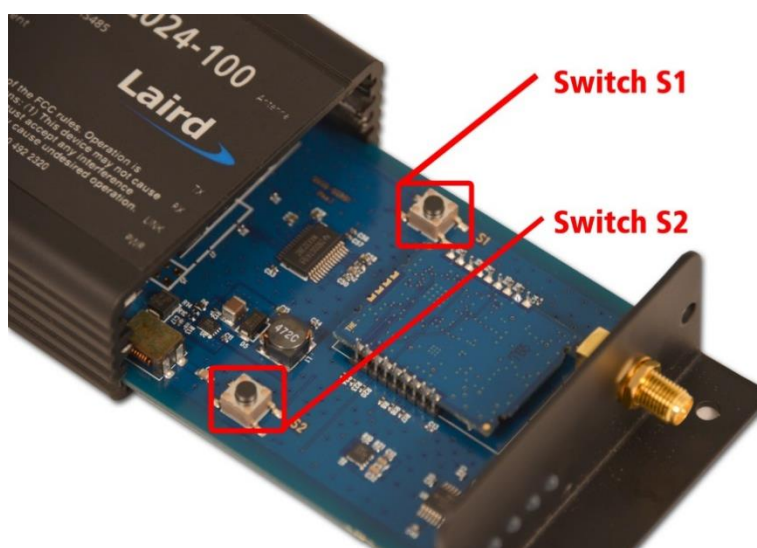

Figure 3: Switch buttons S1 and S2
4. Press and hold both pushbuttons S1 and S2. (see Figure 3)